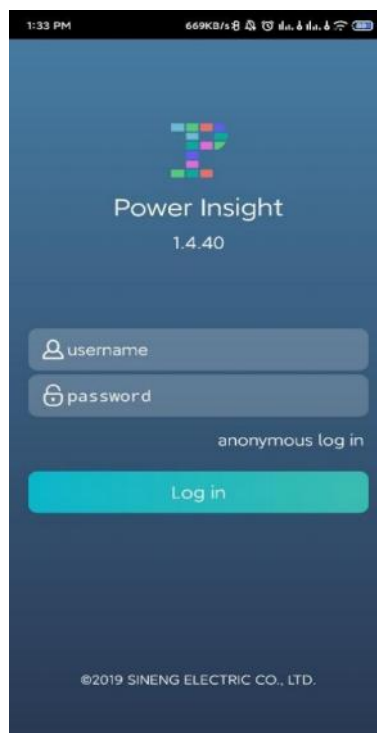

Figure 5-5 Main UI
- (3) On the main UI, enter the user name and password to log in as prompted. If you do not have a user name and password, you can select login without registration, as shown in Figure 5-5.